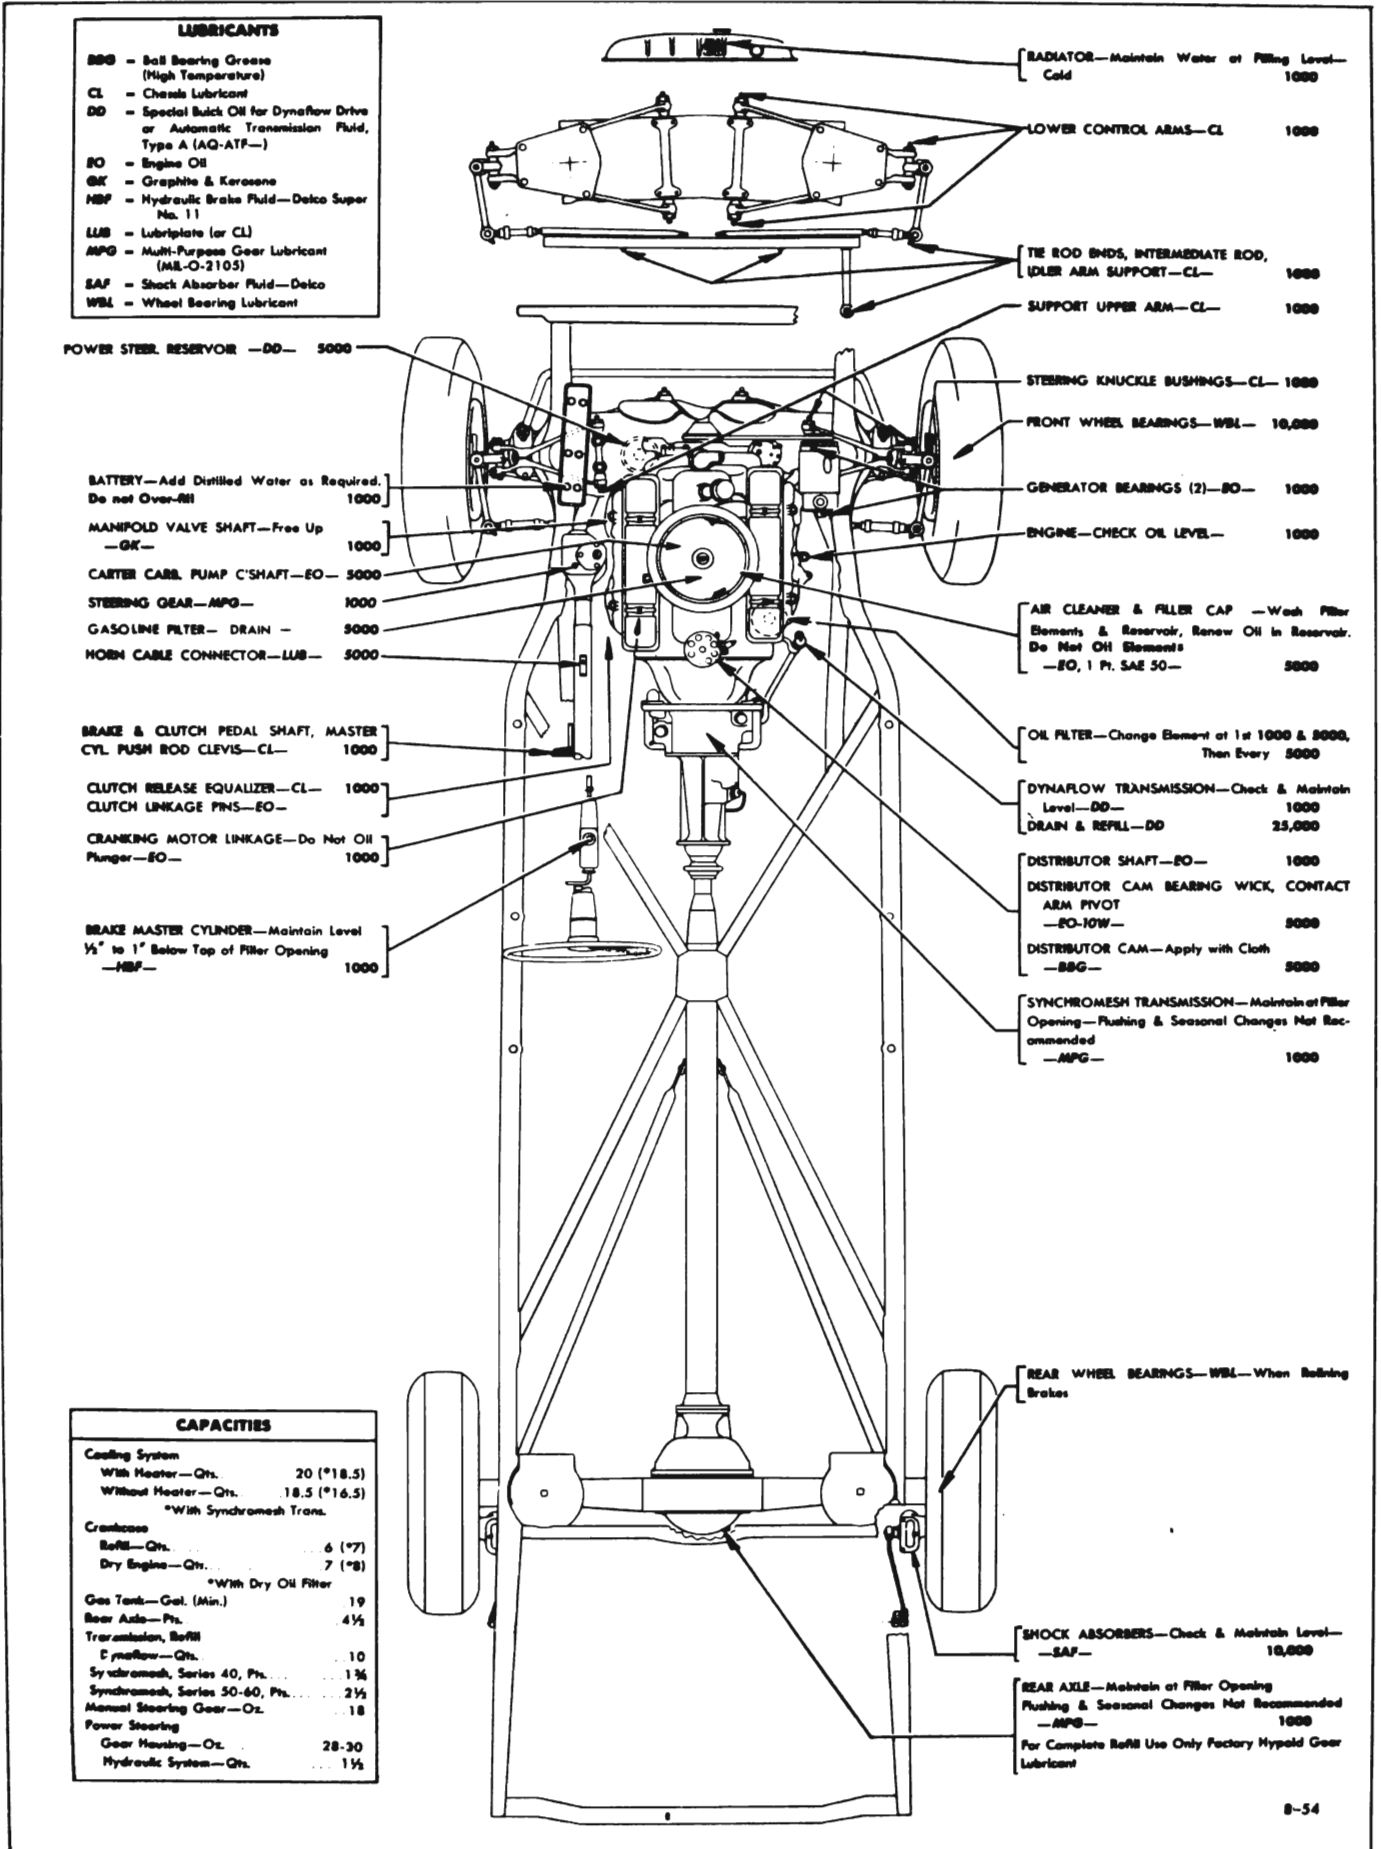

Figure 1-1—Chassis Lubricare Chart—All Series
2. *Front suspension, Brake, Clutch and Transmission Controls.* Wipe dirt from lubrication fittings, then apply a good grade of water resistant chassis lubricant, under pressure, at the following points (fig. 1-1) :